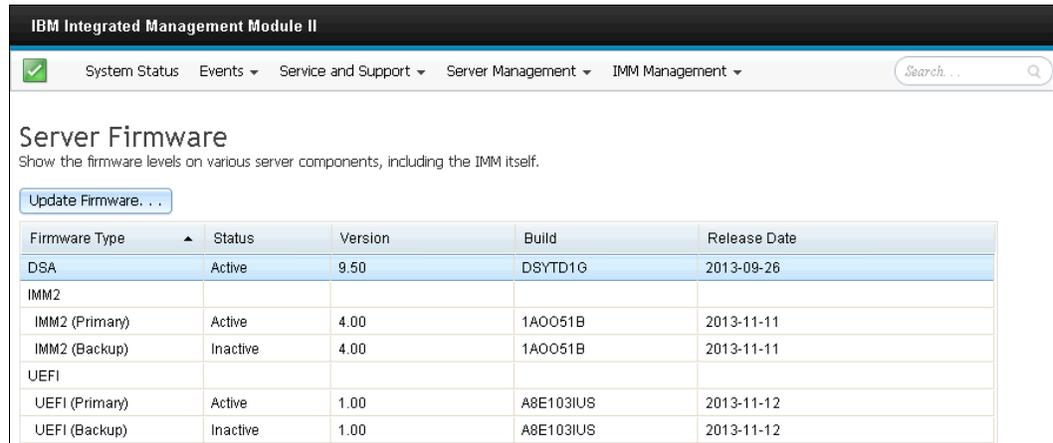

Figure 6-21 The IMM Server Firmware window
1. From the IMM web interface, select **Server Management** → **Server Firmware**, as shown in Figure 6-21.